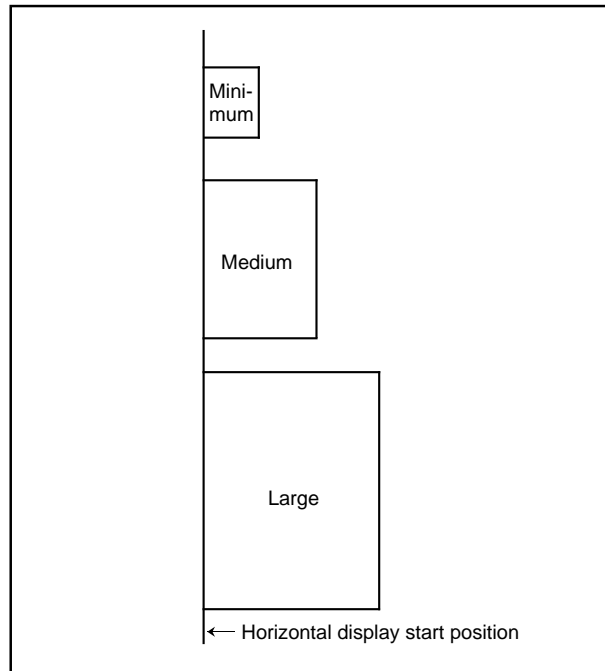

Fig. 43. Display start position of each character size (horizontal direction)
**Note:** The display start position in the horizontal direction is not affected by the character size. In other words, the horizontal display start position is common to all blocks even when the character size varies with each block (refer to Figure 43).